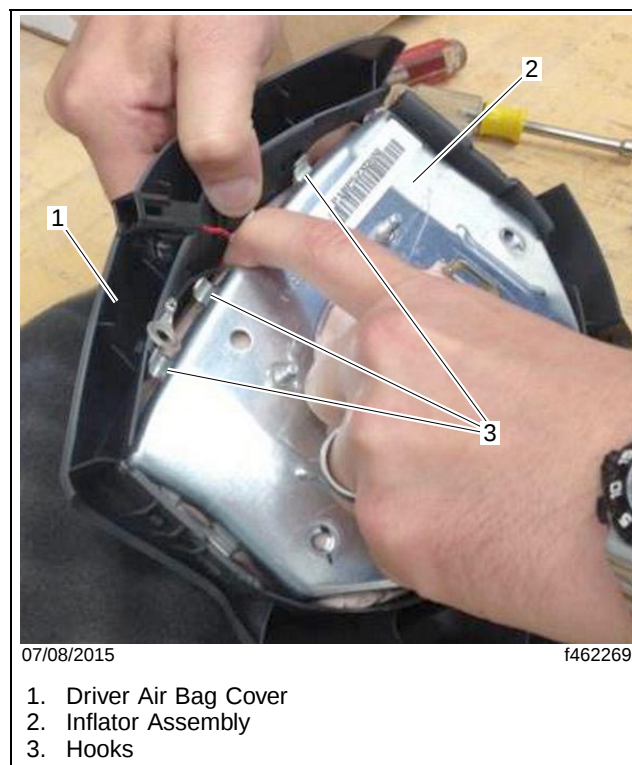

Fig. 6, Removing the Inflator Assembly
- 12.4 Slowly pull the inflator assembly up, making sure that the hooks are clear from the windows on all sides. See **Fig. 6.**